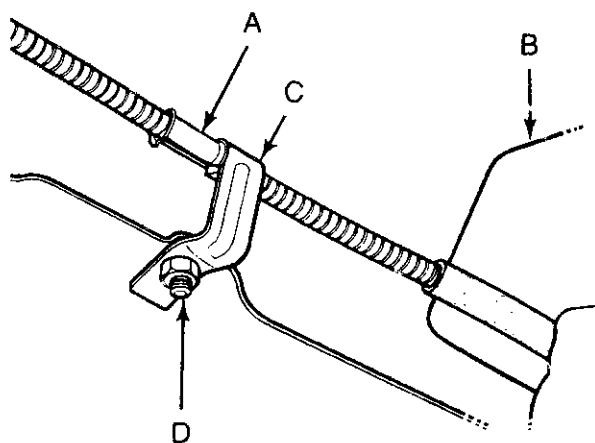

Fig. 1
1. Remove the fasteners (D) holding the right rear parking brake cable bracket (C) to the floorpan (Fig. 1).